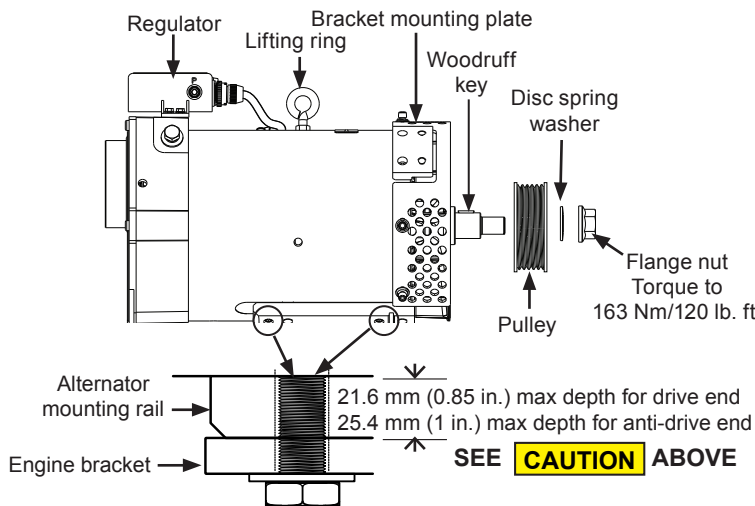

Figure 1: Alternator Installation Details
2. Install pulley, furnished disc spring washer, and pulley nut on shaft. Beveled side of disc spring washer must be facing pulley. Torque nut to 163 Nm/120 lb. ft. See Figure 1.
CAUTION Minimum recommended thread engagement is 12.7 mm (0.5 in.) into alternator drive end mounting holes and 16.5 mm (0.65 in.) into anti-drive end mounting holes. Maximum mounting screw depth into alternator regardless of washer and bracket stackup is 21.6 mm (0.85 in.) into drive end mounting holes and 25.4 mm (1 in.) into anti-drive end mounting holes. See Figure 1 inset. EXCEEDING MAXIMUM DEPTH WILL RESULT IN IMMEDIATE ALTERNATOR FAILURE.
2. Mount regulator directly on ADE housing or mounting bracket on anti-drive end of alternator as shown in Figures 1 and 5 on page 1, or install remotely with extension harness¹.